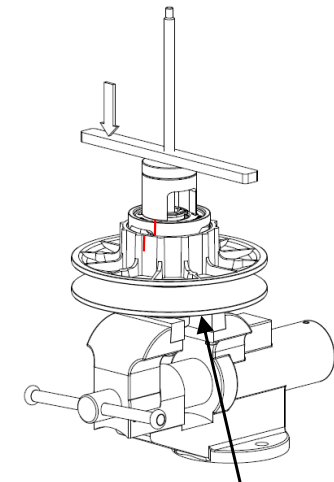
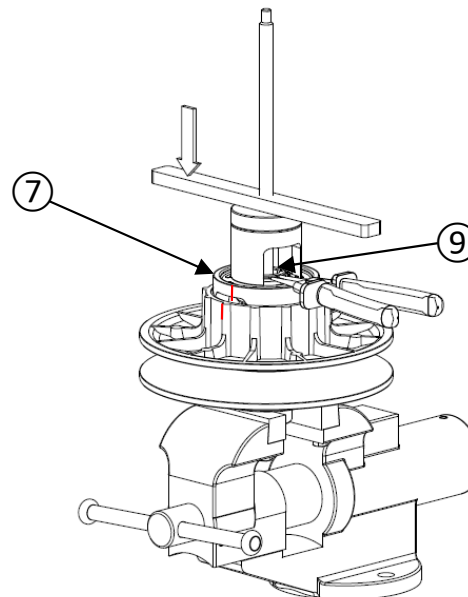

Figure 19
Figure 20
- Install the pulley on the disassembly tool as shown in figure 19. Use the lock screw to prevent the rotation of the pulley on the disassembly tool.
- By screwing the bar on the threaded rod, press down cam ⑦ (3 to 4 mm max.) in order to free up the retaining ring ⑨.
- Remove the retaining ring ⑨ using the snap ring pliers (figure 20).